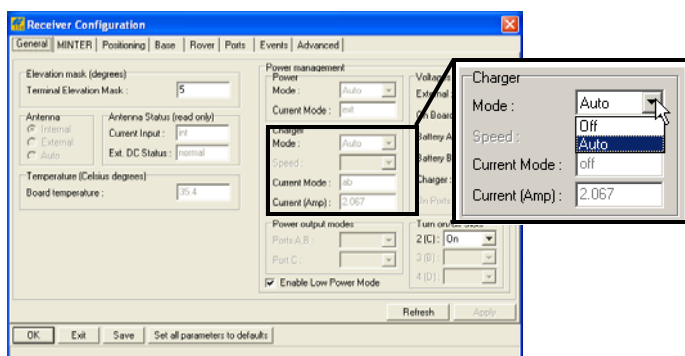

Figure 2-10. Select Charger Mode
4. Select the *Charger Mode* drop-down list to set the desired charger mode (Figure 2-10 on page 2-12). *Current Mode* displays the charging battery: a, b, ab, or none (off).